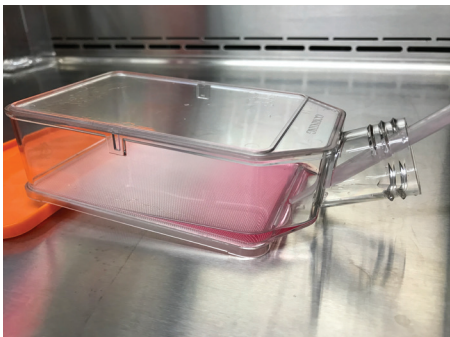

Figure 5. Recommended pipet tip position for medium exchanges.
3. To remove spent medium, place the pipet tip up against the diverter feature (as shown in Figure 5) and begin to aspirate medium out.
4. To replace medium, place the pipet tip up against the diverter feature (Figure 5) and slowly add fresh medium into the flask.